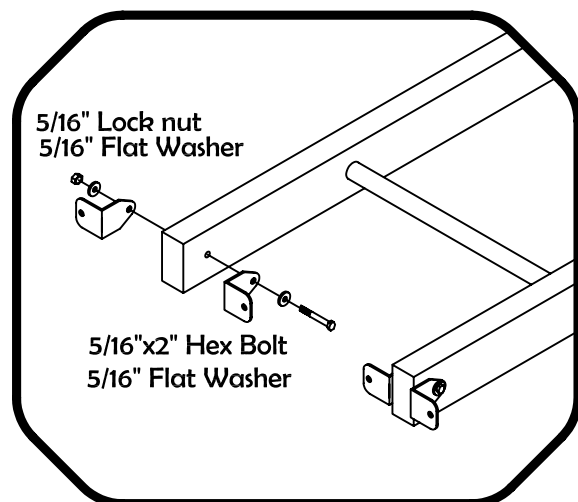

FIG. 11
- Step 3: Attach (2) L-brackets to the end of each Top Ladder Rail with 2" Hex Bolts and hardware shown. (See Fig. 11)